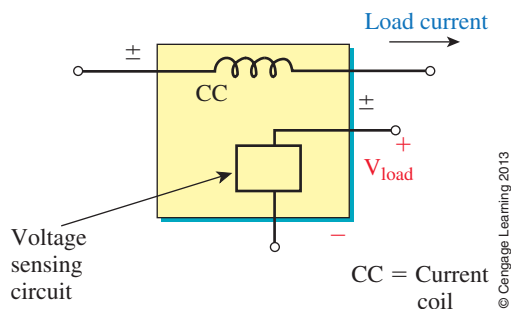
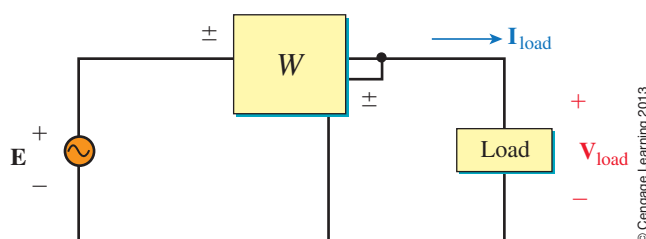

FIGURE 17-24 Conceptual representation of an electronic wattmeter.
FIGURE 17-25 Connection of wattmeter.
You need to be very clear on what angle to use in determining a wattmeter's reading. In terms of Figure 17-24, the angle to use is the angle between the voltage labelled V_{load} and the current labelled *Load current*, using the reference polarity for voltage and the reference direction for current shown. The diagram of Figure 17-25 helps clarify this.
To strengthen your understanding of the concept of power measurement, reexamine Figures 17-1, 17-2, and 17-3. Instantaneous load power is the product of load voltage times load current, and average power is the average of this product. One way to implement power measurement is therefore to create a meter with a current sensing circuit, a voltage sensing circuit, a multiplier circuit, and an averaging circuit. Figure 17-24 shows a simplified symbolic representation of such an instrument. Current is passed through its current coil (CC) to create a magnetic field proportional to the current, and a solid state sensor circuit connected across the load voltage reacts with this field to produce an output voltage proportional to the product of instantaneous voltage and current (i.e., proportional to instantaneous power). An averaging circuit averages this voltage and drives a display to indicate average power. (The scheme used by the meter of Figure 17-23 is actually considerably more sophisticated than this because it measures many things besides power—e.g., it measures VARs, VA, energy, and more. However, the basic idea is conceptually correct.)
Figure 17-25 shows how to connect a wattmeter into a circuit. Load current passes through its current coil circuit, and load voltage is impressed across its voltage sensing circuit. With this connection, the wattmeter computes and displays the product of the magnitude of the load voltage, the magnitude of the load current, and the cosine of the angle between them, that is, $V_{\text{load}} \cdot I_{\text{load}} \cdot \cos \theta_{\text{load}}$ —see Notes. Thus, it measures load power. Note the $\pm$ marking on the terminals.